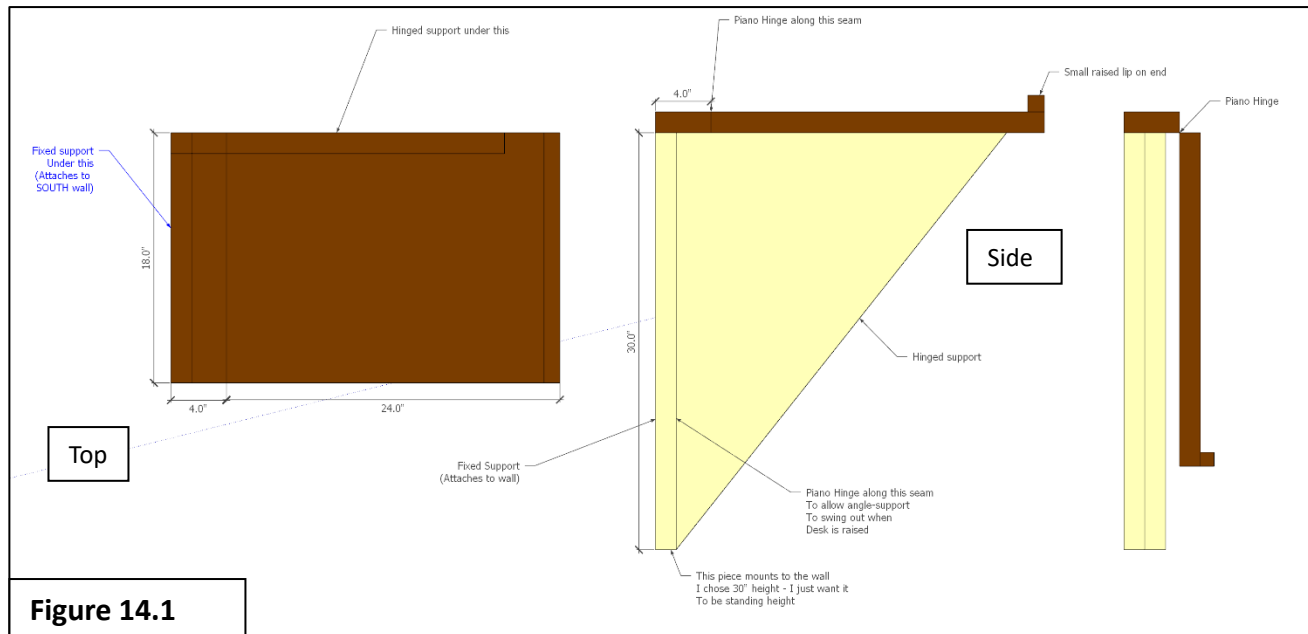

Figure 14.1
- j. Install receptacles per Figure 14.1